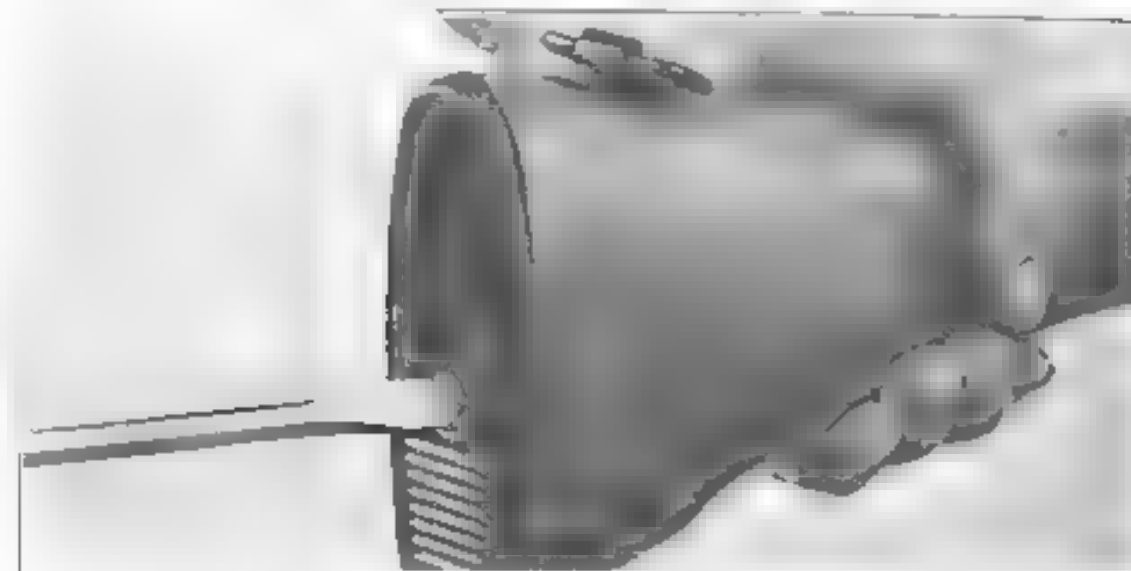

Fig. 112
b) **Butt plate.** — Unscrew butt plate screw (fig. 112,